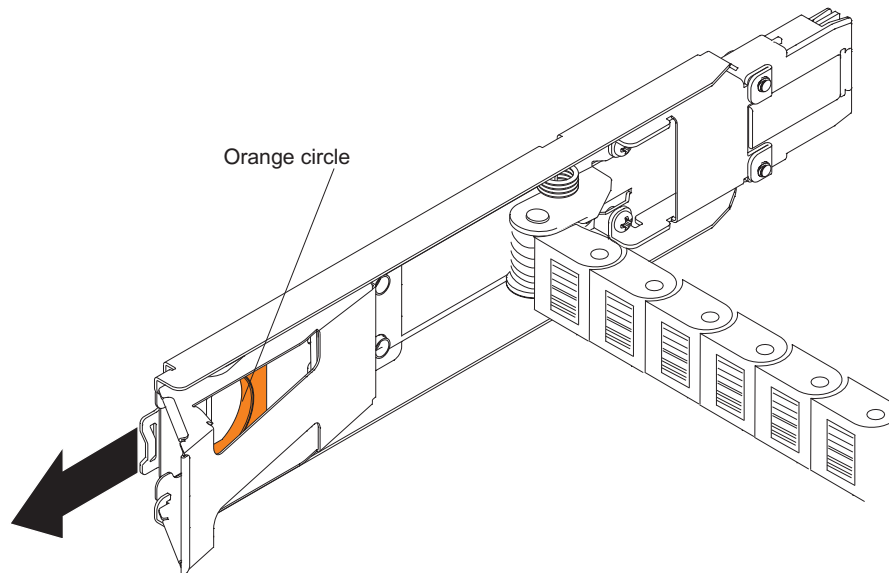

Figure 88. Vertical mounting bracket that connects to the midplane
- c. Disconnect the right cable chain mounting bracket from the midplane. Hold the orange handle (see Figure 88 on page 138), and pull the mounting bracket completely out of the storage expansion enclosure. If necessary, use a flashlight to see the orange handle.